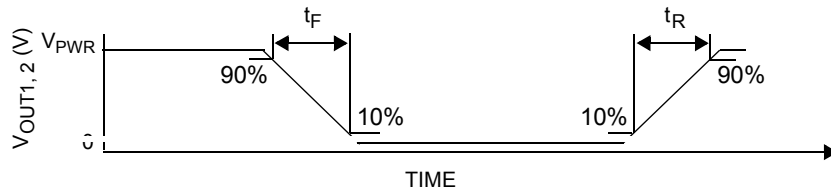

Figure 6. Output Switching Time
- Rise Time is from the 10% to the 90% level and Fall Time is from the 90% to the 10% level of the output signal with $V_{\text{PWR}} = 14\text{ V}$, $R_{\text{LOAD}} = 3.0\text{ ohm}$. See Figure 6, page 10.